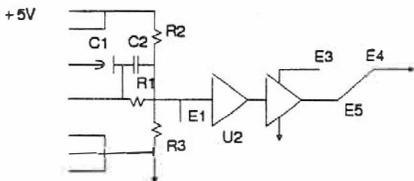
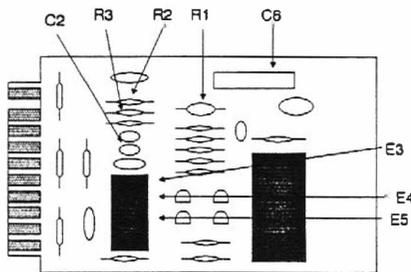

Figure 5. Schmitt Trigger Schematic Diagram
Figure 6. PC Board Component Layout
To aid in the description of the modifications, a schematic diagram of the input circuit is shown in figure 5. A drawing showing the component layout is provided in figure 6.
- Adjust capacitor C6 (figure 6) until display agrees with frequency standard input.